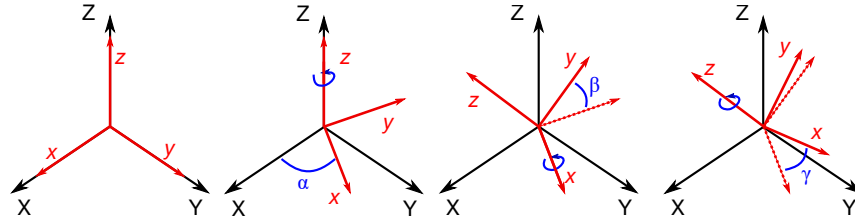

Figure 7-5. A rotation represented by Euler angles (α, β, γ) using $\mathbf{Z}(\alpha)\mathbf{X}(\beta)\mathbf{Z}(\gamma)$ intrinsic rotations.
2. **Local coordinate systems.** It is possible to have the ICFD parts or ICFD_PART_VOLs rotate around the global reference frame but also to define and use a local reference frame by defining its point of origin and two of its vectors $\mathbf{v}_1 = (X1, Y1, Z1)$ and $\mathbf{v}_2 = (X2, Y2, Z2)$ (note that $\mathbf{v}_1$ and $\mathbf{v}_2$ should be orthogonal). The third vector is, then, in the direction of $\mathbf{v}_1 \times \mathbf{v}_2$. See Figure 7-5.